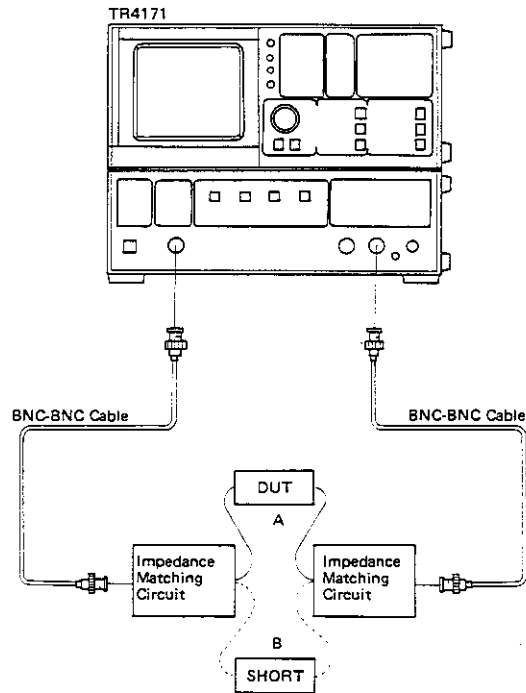

Fig. 5-1 Connection for Amplitude Measurement
Connect the instruments as shown in Figure 5-1.
- (2) Set the frequency span to 20 kHz, the center frequency to 10.7 MHz, and the vertical scale to 2 dB/div.
Connect the DUT as shown at (A) in Figure 5-1, and set the sweep time so that the waveform does not vary.
Disconnect the DUT, as shown at (B) in Figure 5-1, and press the DISPL LINE key to generate the display line on the screen. Adjust the display line to the reference level using the DATA step keys and the DATA knob, then press the NORM key. This operation sets normalize mode, and normalizes the through waveform so that it is superimposed on the reference level. This level becomes the standard for the insertion loss measurement.
Connect the DUT as shown at (A) in Figure 5-1, and execute the measurement with the procedure described below.